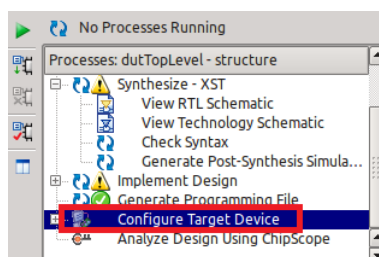

Figure 2.10:
8. Program the DUT using Xilinx Impact. In the Processes window, click Configure Target Device (See Fig 2.10).